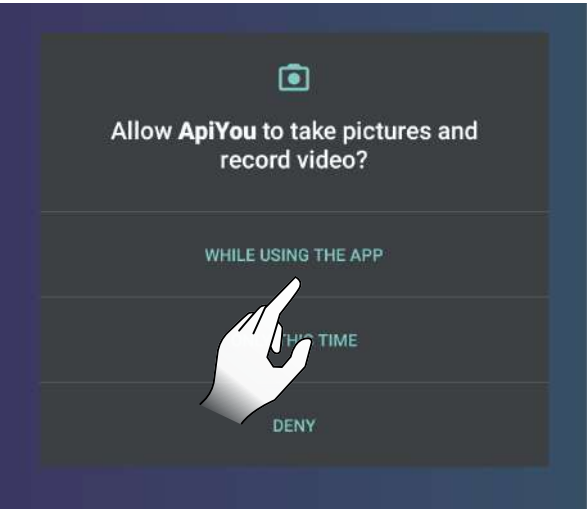

Fig. 8.1
- that you have scanned the QR code correctly. Check that ApiYou allows use of the camera, if it has not been allowed the scan will appear completely black; therefore, edit the settings as shown in Fig. 8.1 and 8.2, or manually enter the 16-digit code;